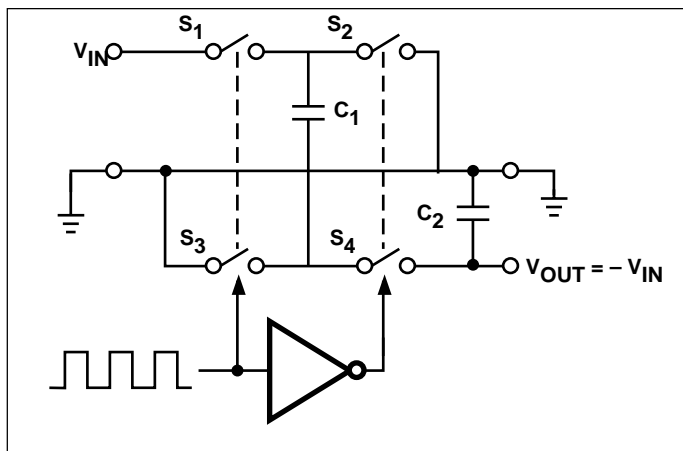
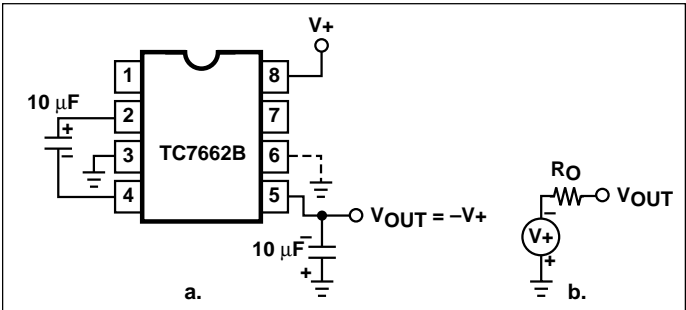
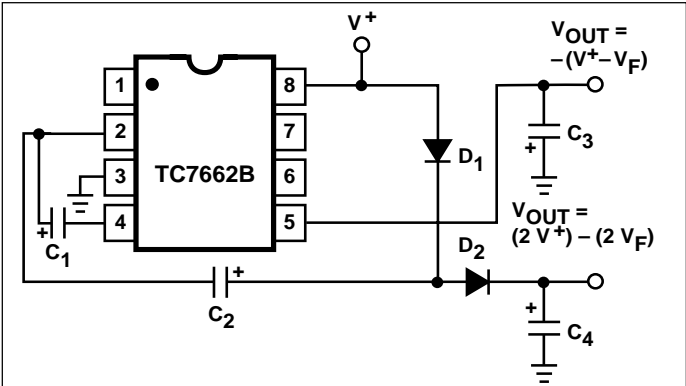

Figure 2. Idealized Negative Voltage Capacitor
Figure 3. Simple Negative Converter and its Output Equivalent
Figure 10. Combined Negative Converter and Positive Doubler
ELECTRICAL CHARACTERISTICS: $V^+ = 5V$, $T_A = +25^\circ C$, OSC = Free running, Test Circuit Figure 2, Unless Otherwise Specified.
The TC7662B contains all the necessary circuitry to complete a negative voltage converter, with the exception of two external capacitors which may be inexpensive 1μF polarized electrolytic types. The mode of operation of the device may be best understood by considering Figure 2, which shows an idealized negative voltage converter. Capacitor C₁ is charged to a voltage V⁺ for the half cycle when switches S₁ and S₃ are closed. (Note: Switches S₂ and S₄ are open during this half cycle.) During the second half cycle of operation, switches S₂ and S₄ are closed, with S₁ and S₃ open, thereby shifting capacitor C₁ negatively by V⁺ volts. Charge is then transferred from C₁ to C₂ such that the voltage on C₂ is exactly V⁺, assuming ideal switches and no load on C₂. The TC7662B approaches this ideal situation more closely than existing non-mechanical circuits.
In the TC7662B, the four switches of Figure 2 are MOS power switches; S₁ is a P-channel device and S₂, S₃ and S₄ are N-channel devices. The main difficulty with this approach is that in integrating the switches, the substrates of S₃ and S₄ must always remain reverse biased with respect to their sources, but not so much as to degrade their “ON” resistances. In addition, at circuit start up, and under output short circuit conditions (V_{OUT} = V⁺), the output voltage must be sensed and the substrate bias adjusted accordingly. Failure to accomplish this would result in high power losses and probable device latchup.
where V₁ and V₂ are the voltages on C₁ during the pump and transfer cycles. If the impedances of C₁ and C₂ are relatively high at the pump frequency (refer to Figure 2) compared to the value of R_L, there will be a substantial difference in voltages V₁ and V₂. Therefore, it is desirable not only to make C₂ as large as possible to eliminate output voltage ripple, but also to employ a correspondingly large value for C₁ in order to achieve maximum efficiency of operation.
The majority of applications will undoubtedly utilize the TC7662B for generation of negative supply voltages. Figure 3 shows typical connections to provide a negative supply where a positive supply of +1.5V to +15V is available. Keep in mind that pin 6 (LV) is tied to the supply negative (GND) for supply voltages below 3.5 volts.
The output characteristics of the circuit in Figure 3 can be approximated by an ideal voltage source in series with a resistance as shown in Figure 3b. The voltage source has a value of -(V+). The output impedance (R_O) is a function of the ON resistance of the internal MOS switches (shown in Figure 2), the switching frequency, the value of C₁ and C₂, and the ESR (equivalent series resistance) of C₁ and C₂. A good first order approximation for R_O is:
Figure 10 combines the functions shown in Figures 3 and 9 to provide negative voltage conversion and positive voltage doubling simultaneously. This approach would be, for example, suitable for generating +9V and -5V from an existing +5V supply. In this instance, capacitors C_1 and C_3 perform the pump and reservoir functions, respectively, for the generation of the negative voltage, while capacitors C_2 and C_4 are pump and reservoir, respectively, for the doubled positive voltage. There is a penalty in this configuration which combines both functions, however, in that the source impedances of the generated supplies will be somewhat higher due to the finite impedance of the common charge pump driver at pin 2 of the device.